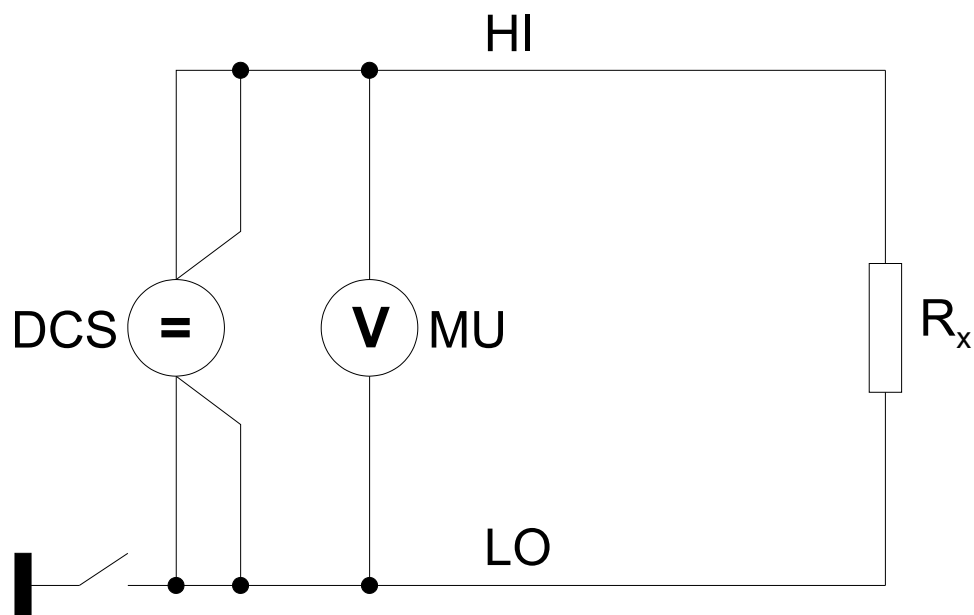
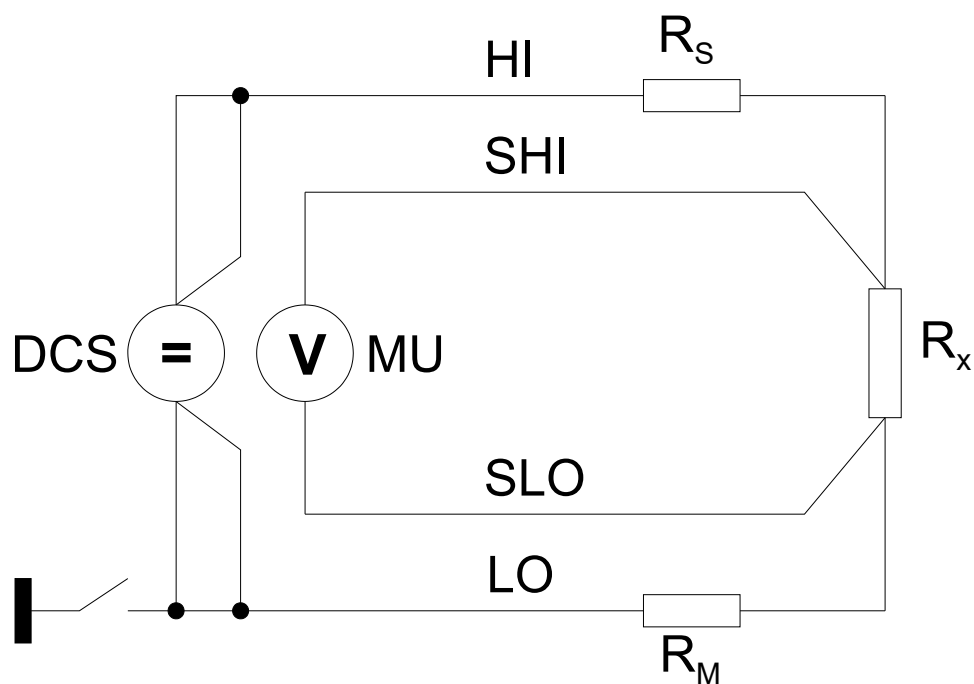
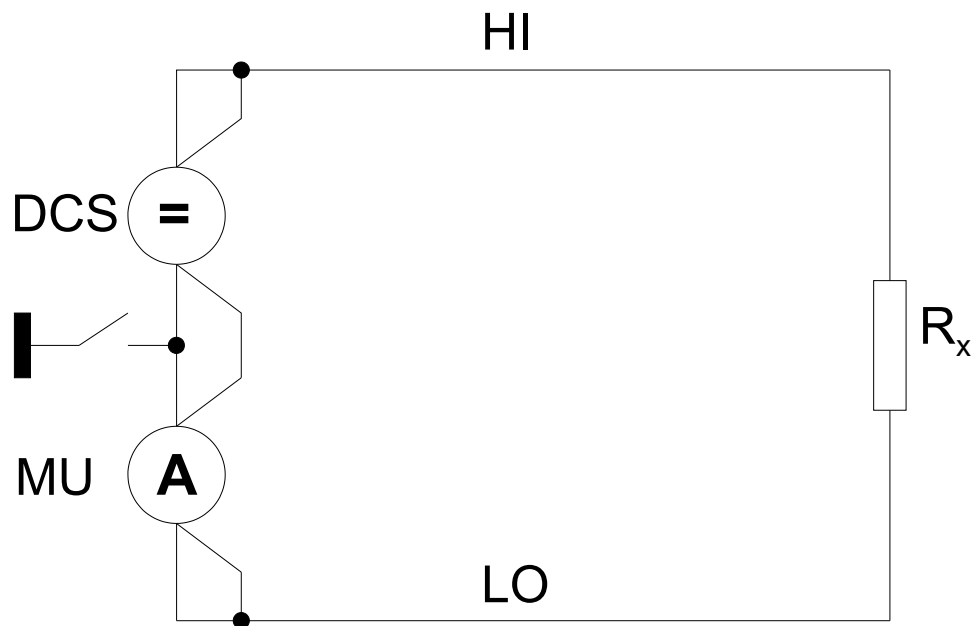
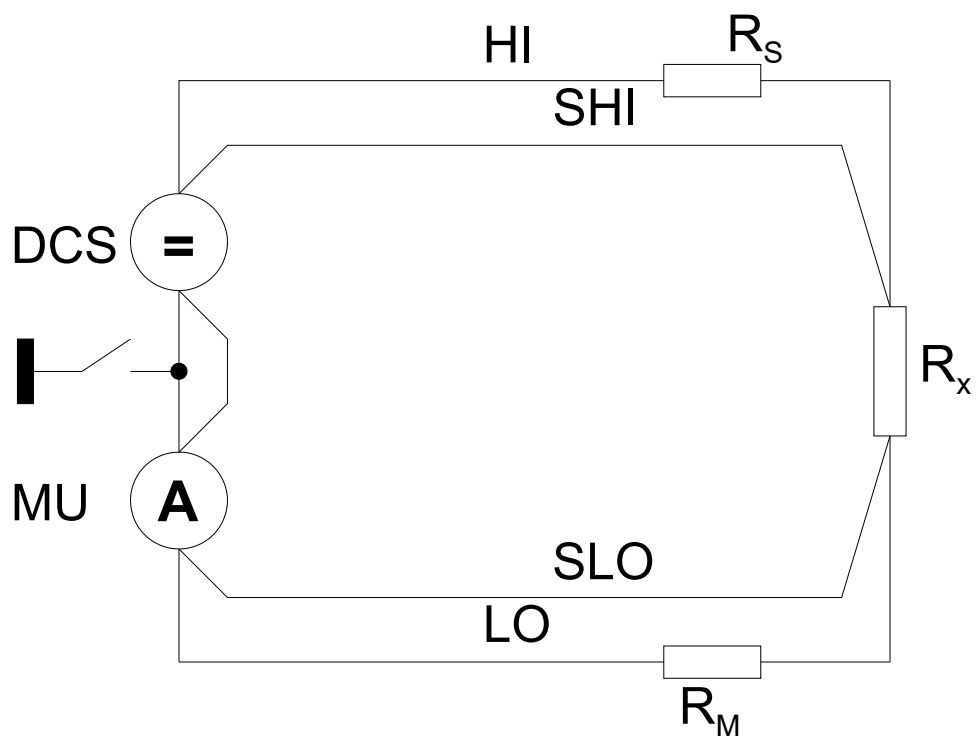

Figure 6-1: Cross-connection for 2-wire resistance measuring in Mode C
Figure 6-2: Cross-connection for 4-wire resistance measuring in Mode C
Figure 6-3: Cross-connection for 2-wire resistance measuring in Mode V
Figure 6-4: Cross-connection for 4-wire resistance measuring in Mode V
- 2- and 4-wire resistance measurements (Figure 6-1 to Figure 6-4)
In this method, a constant current is applied and the voltage is measured. (see Figure 6-1 to Figure 6-2)
In this method, the voltage is applied and the current is measured. (see Figure 6-3 to Figure 6-4)
The channels of the single components MU and DSC cannot be cross-connected if the resistance measurement function (`rspsam_ConfigureMeasurement`) is configured. In this case, use the DMM channels. During resistance measurement, the MU and DCS components will be connected through internal configuration relays, depending on the chosen range (see figures from Figure 6-1 to Figure 6-4). For example, during a 4-wire resistance measurement in modus C, the DMM_SHI wire corresponds to the channel MU_HI of the measurement unit. During a 4-wire resistance measurement in modus V, the DMM_LO wire corresponds to the MU_HI channel of the measurement unit.